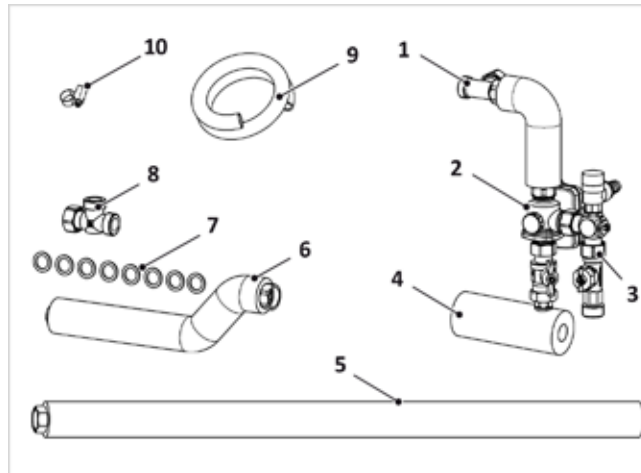
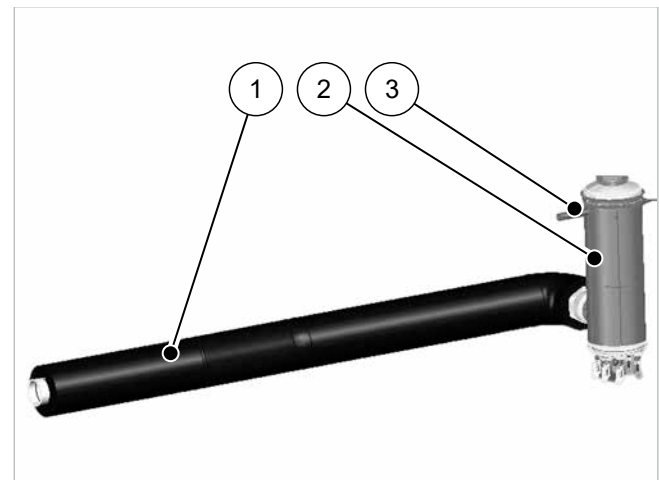

Fig. 2: Assembly pack for LM WP-VSG / WP-SL-VSG 3-W valve
Fig. 7: Heating cartridge with HP flow pipe
➔ fig. 2, p. 7.
When the SolvisMax Solo is combined with the SolvisMia or SolvisLea Eco, the supplied heating cartridge must also be integrated into the heating pump flow in the WP-SL-VSG charging module. This "LM WP-SL HPT assembly pack" (➔ fig. 7) replaces the "WP-VL connection pipe" here; see ➔ fig. 2 (5).